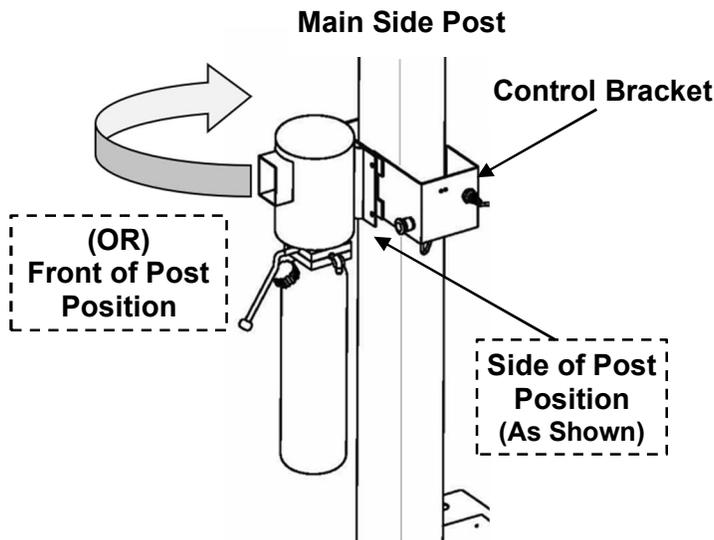

Fig. 20
NOTE: There are two positions for mounting Power Unit & Control Bracket - Side of Post or Front of Post. Choose the desired position that best fits the service bay area. (Fig. 20)
- 2) Mount Control Bracket to the backside of the Main Side Post Bracket's left side while using the same **M8 x 25mm** Bolts, M8 Washers & Hex Nuts to mount the Power Unit, **Fig. 20**. Ensure to tighten all Bolts to fully secure Power Unit & Control Bracket to Main Side Post.